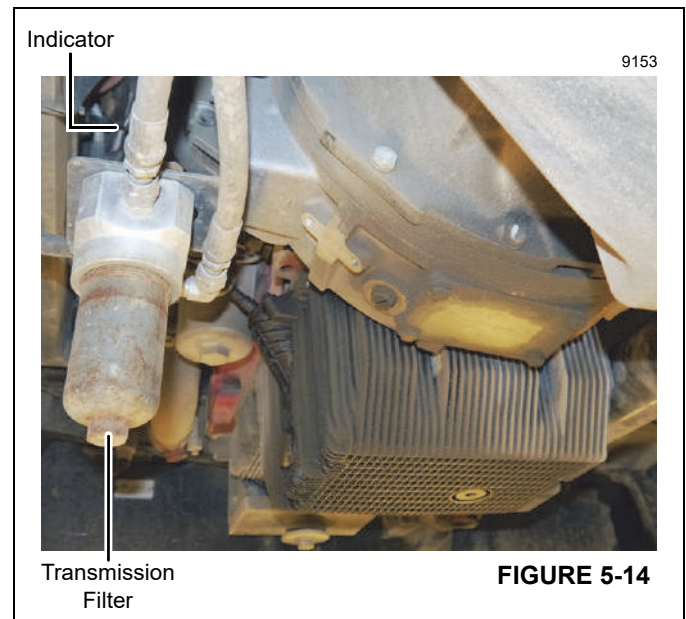

FIGURE 5-14
With the engine running, check the indicator (Figure 5-14) on the transmission filter. Replace the filter element if the indicator is in the red area.
2. Locate the transmission filter on the right side of the engine (Figure 5-14).